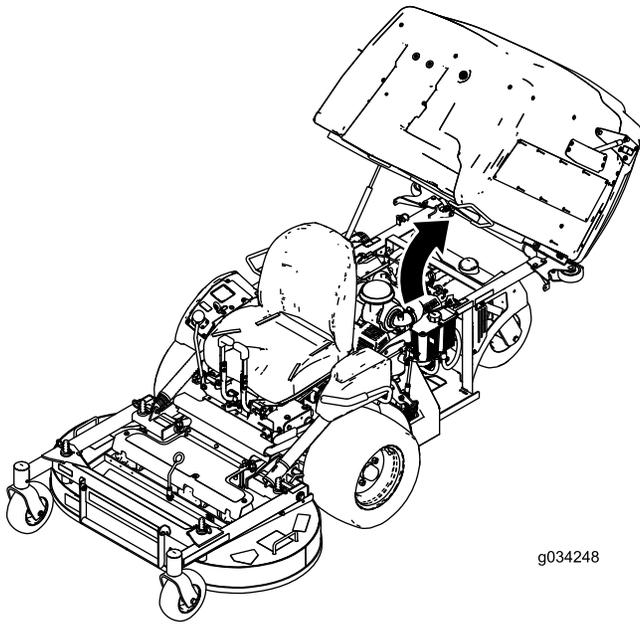

Figure 30
1. Raise up the hopper (Figure 30).